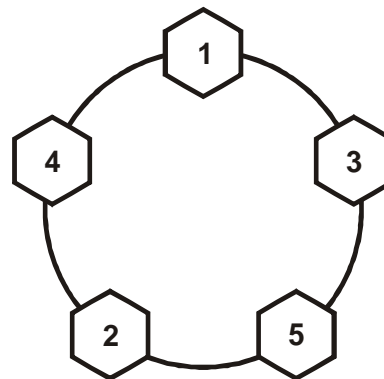

Figure 2-3. Wheel Nut Tightening Sequence
- ❑ Refer to Figure 2-3 for correct wheel nut tightening sequence.